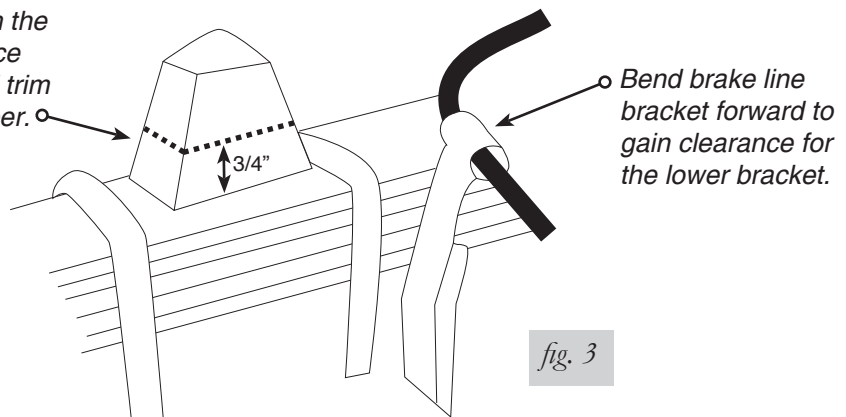

fig. 3
2. Bend the emergency brake cable bracket forward slightly on both sides of the vehicle (Fig. 3).
3. It will be necessary to trim the stock jounce bumper to gain clearance for the air spring assembly's lower bracket. Measure up from the base 3/4" and mark a line on the jounce bumper. Using a box cutter or equivalent, cut the top of the jounce bumper off (Fig. 3).